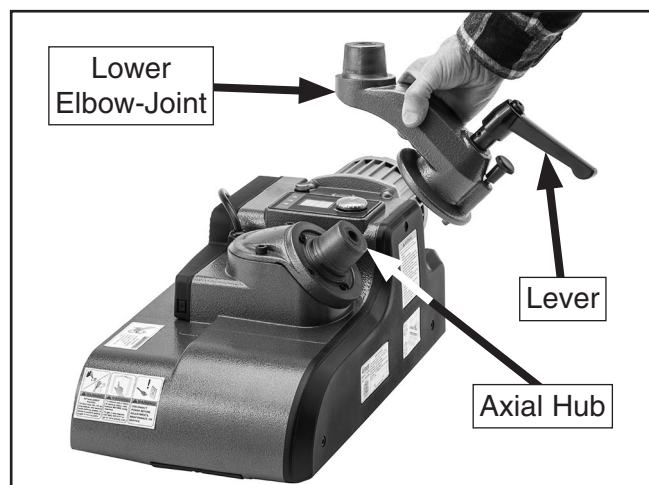

Figure 12. Attaching lower elbow-joint.
6. Thread lower elbow-joint lever all the way into threads of axial hub on power feeder (see **Figure 12**).